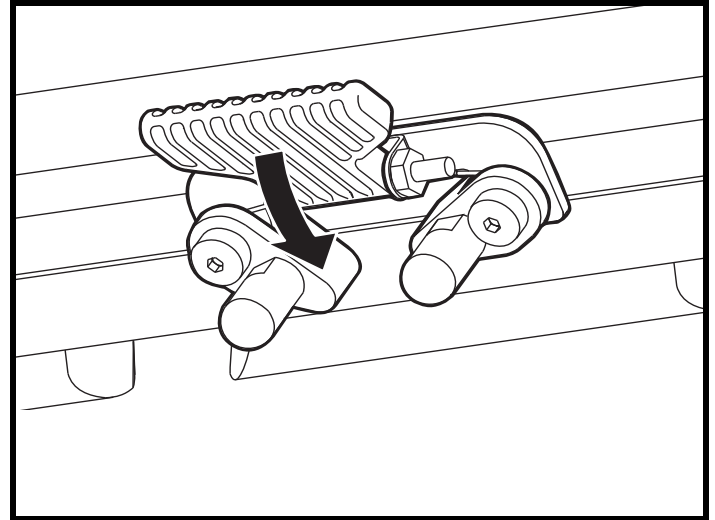

Figure 16. Seat Latch Safety (Disengaged)
3. Flip down the seat latch safety. See figure 16.